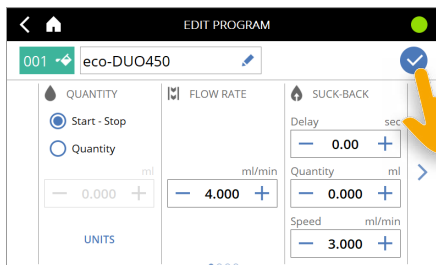

Fig. 42
- ▶ Finally, save your changes (Fig. 42).